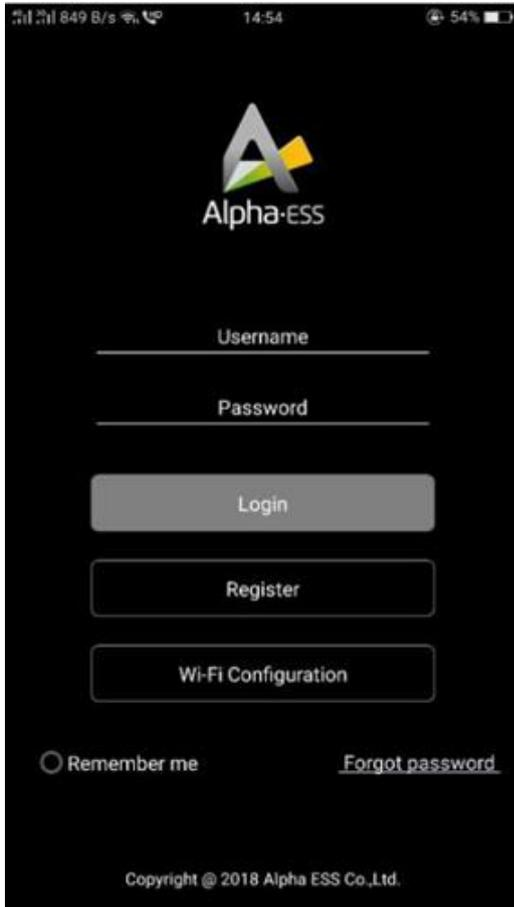

Figure 4-2 Network Setting
Step 1: Open AlphaESS APP, click the “Wi-Fi Configuration” button and enter the Wi-Fi configuration interface as shown in Figure 4-2.